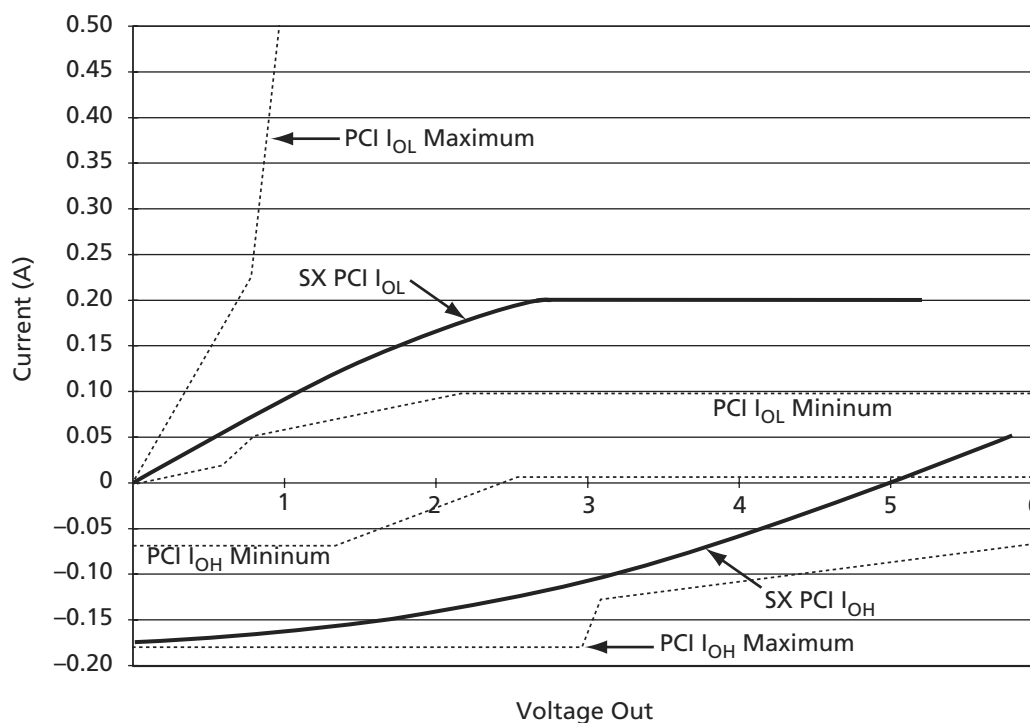

Figure 1-9 • 5.0 V PCI Curve for A54SX16P Device
1. Refer to the *V_I* curves in Figure 1-9 on page 1-11. Switching current characteristics for REQ# and GNT# are permitted to be one half of that specified here; i.e., half-size output drivers may be used on these signals. This specification does not apply to CLK and RST#, which are system outputs. "Switching Current High" specifications are not relevant to SERR#, INTA#, INTB#, INTC#, and INTD#, which are open drain outputs.
3. Maximum current requirements must be met as drivers pull beyond the last step voltage. Equations defining these maxima (A and B) are provided with the respective diagrams in Figure 1-9 on page 1-11. The equation defined maxima should be met by design. In order to facilitate component testing, a maximum current test point is defined for each side of the output driver.
Figure 1-9 shows the 5.0 V PCI V/I curve and the minimum and maximum PCI drive characteristics of the A54SX16P device.